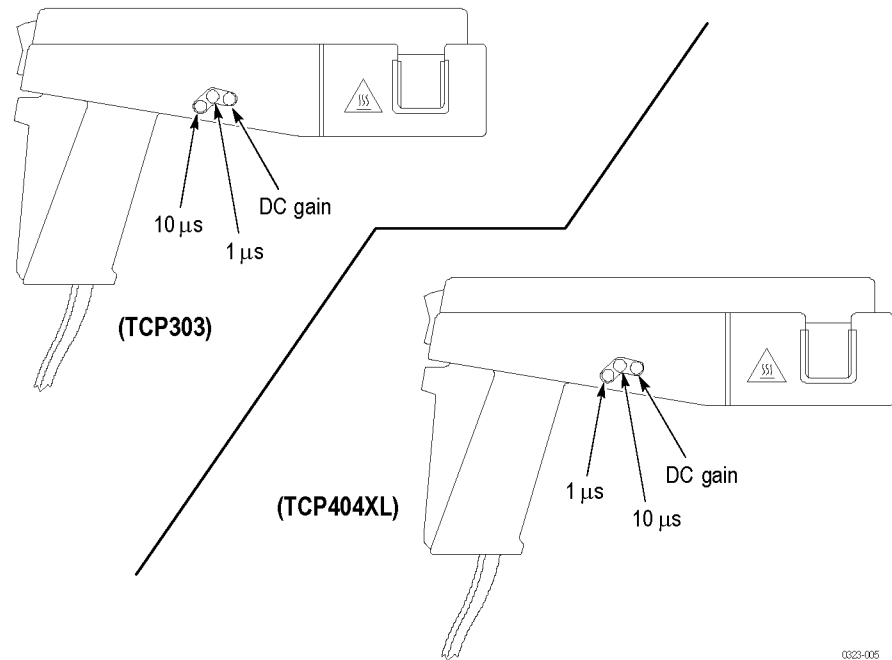

Figure 17: TCP303 and TCP404XL adjustment locations
The location of the probe adjustments is shown below. (See Figure 17.)
2. Preset the probe adjustments: The adjustment locations are shown. (See Figure 17 on page 51.) Do this only at the beginning of the probe adjustment process.
4. Preset the probe adjustments: The adjustment locations are shown. (See Figure 17 on page 51.) Do this only at the beginning of the probe adjustment process.